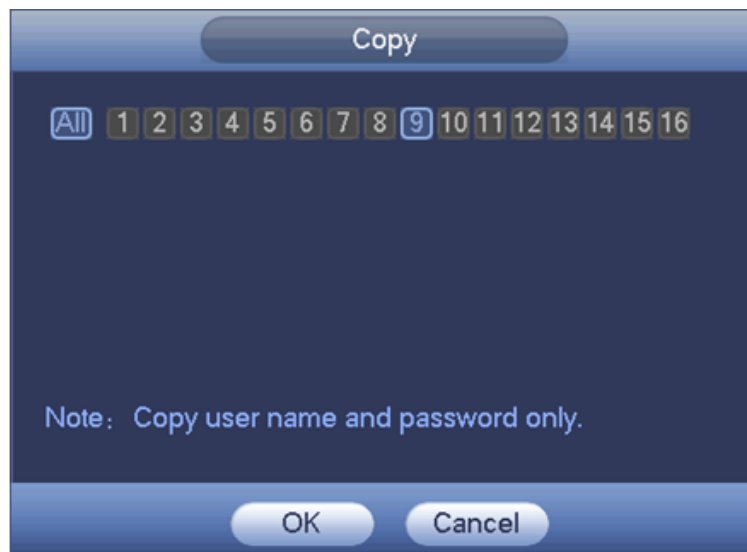

Figure 4-31
- ◇ Click Copy, device pops up the following dialogue box. It is to copy the user name and password to the selected channel(s). See Figure 4-31.